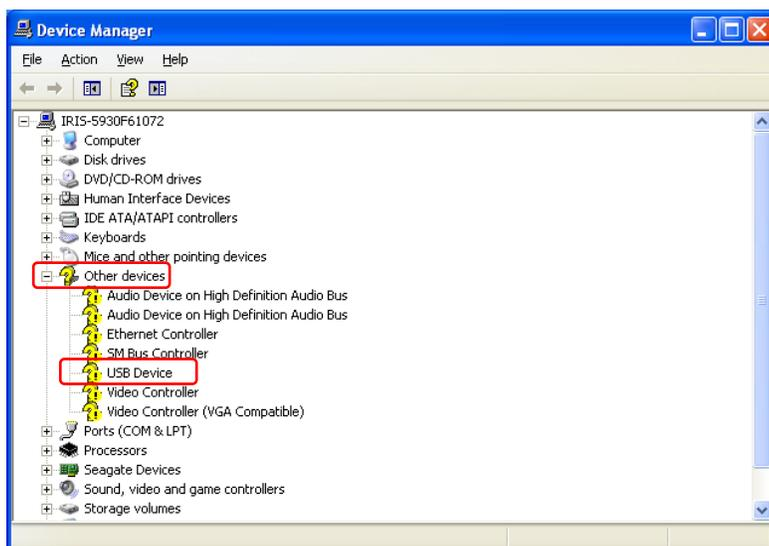

Fig. 3
- D. Right click on USB Device (shown in Figure 3) and select “Properties”.